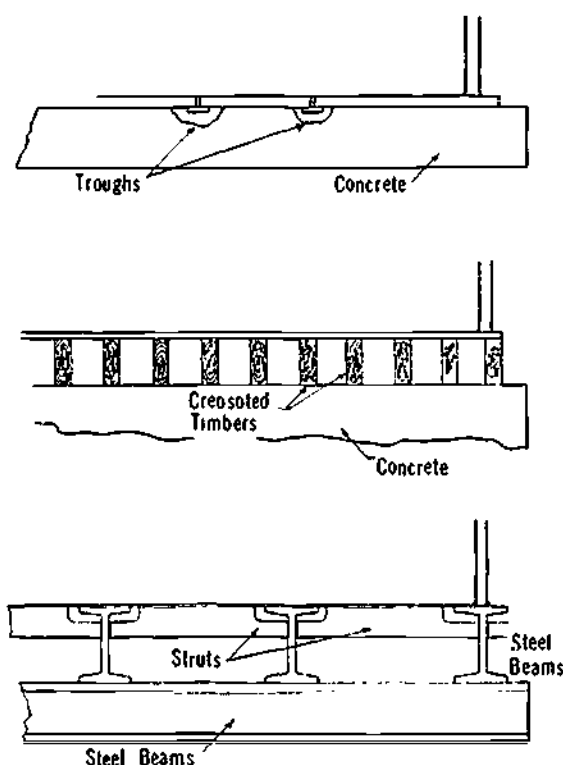

Figure 12-6. Three Types of Acid Tank Supports
**Grillage and Beams** Acid tanks are frequently placed on wood or steel grillage; sometimes solid concrete pads are used with troughs extending under the seams at specified intervals. Each variation is designed for the particular job. Bottom plates are usually heavier to provide support between points of bearing on the grillage (Figure 12-6).